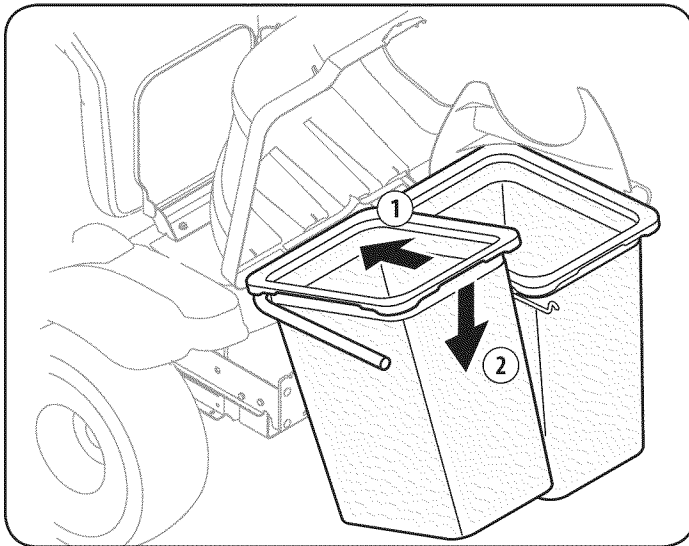

Figure 17
8. Install both grass bins onto the bin support assembly by inserting the front edge in first (1), as seen in Fig. 17, and setting the back edge down (2) until it fits into the assembly.